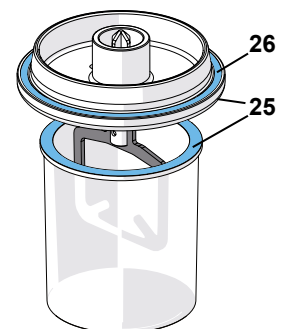

Fig. 10
- ⇒ Make sure the bowl rim and cover rim (25, Fig. 10) are clean.
- ⇒ Couple the mixing bowl (14) to the appliance.